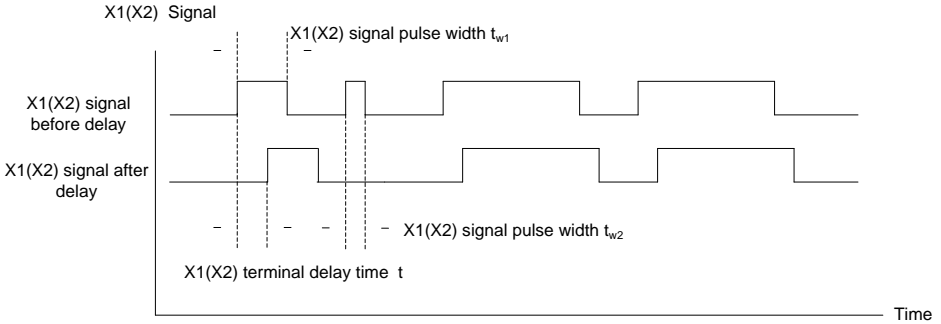

Fig.6-13 X1/X2 terminal delay
**Note:** The signal can be identified only when the X1/X2 signal pulse width larger than X1/X2 terminal delay time. See Fig.6-13,  $t_{w1}$  can be identified and  $t_{w2}$  will be ignored.